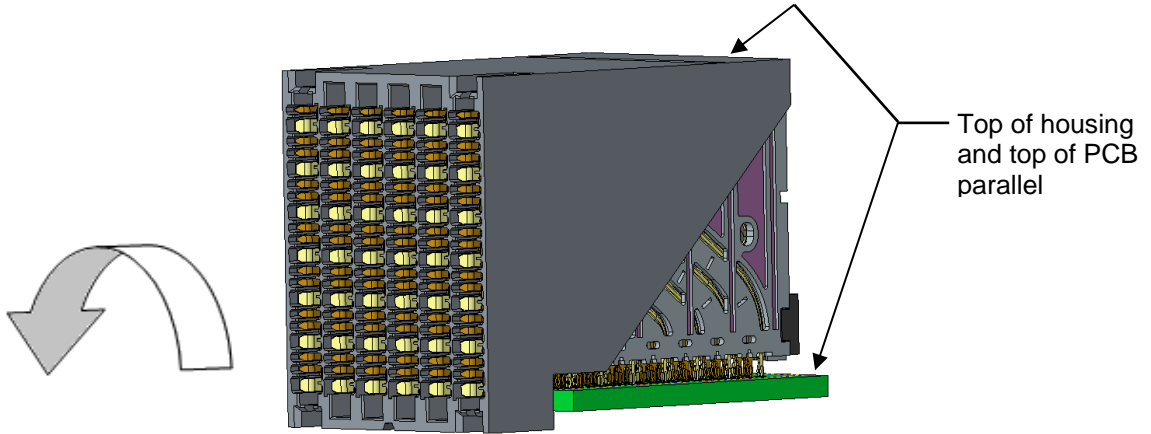

Figure 26: Connector Rotated Parallel to Top of PCB and EONs Aligned
- Once the end column EON tips have been inserted, rotate the connector towards the board to insert the rest of the EON tips into their corresponding vias. The top surface of the connector should be parallel with the top surface of PCB after all of the tips have been properly inserted. Refer to figure 26.